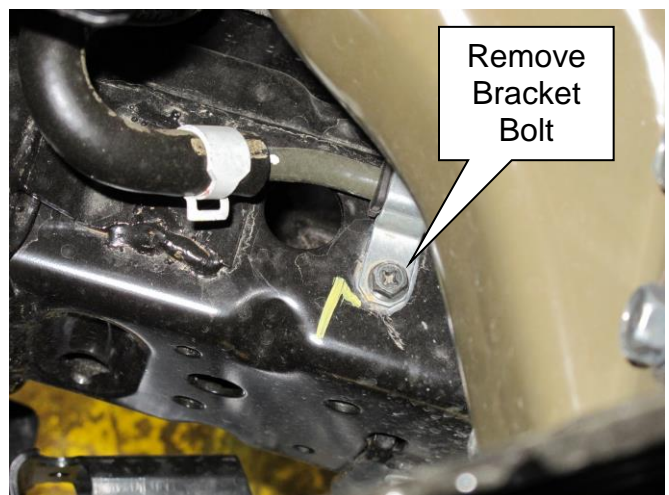

Figure 11
11. **CORRECT ANY BYPASS VALVE HOSES THAT ARE NOT PROPERLY INSTALLED, REFERENCE STEP 9 (FIGURE 11, 12).**
- Torque (5) bolts to **13.5N·m (10 ft-lb)**.